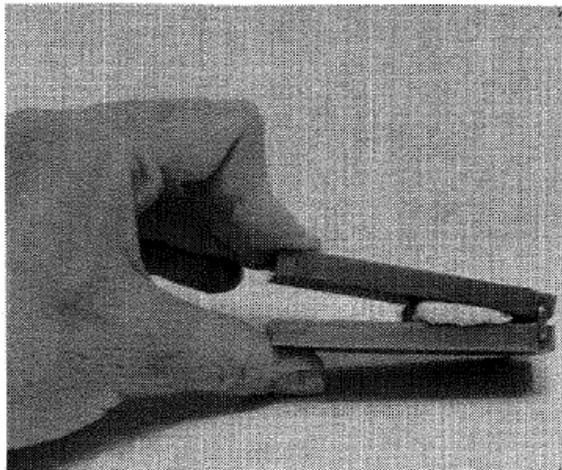

Figure 22. Using the sponge squeezer to remove excess water
- Step 5.** Squeeze out excess water from the sponge using the sponge squeezer (Figure 22).